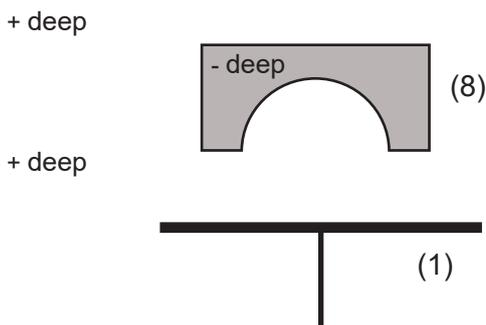

Fig. 20
Place the concave body (8) as shown in figure 20.